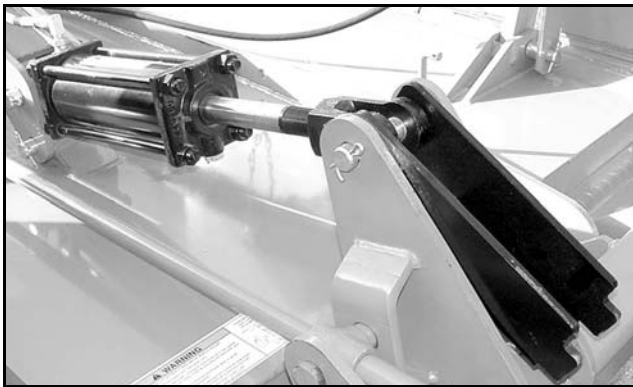

Figure 5. Transport Lock In Operation Position
4. To lower cutter for operation, extend hydraulic cylinder to raise cutter. Rotate transport lock back away from cylinder rod (Figure 5).